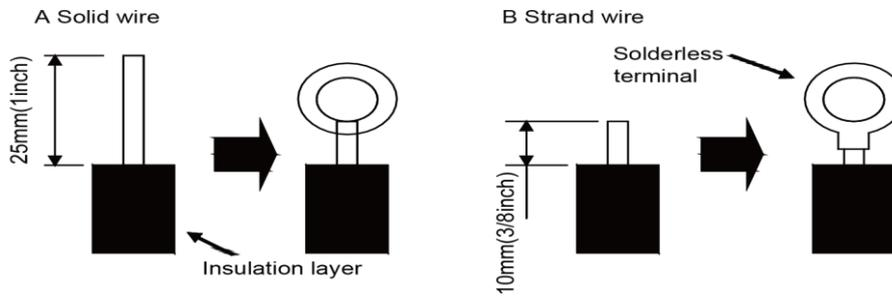

Figure 3-4-1
(1) For solid core wiring (Figure 3-4-1)
(2) For strand wiring (Figure 3-4-1)